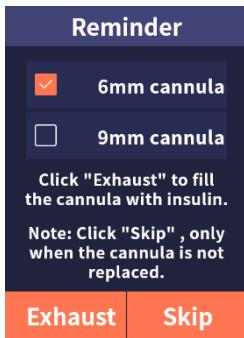

Figure 10.5
(5) Exhaust. Select the length of the soft cannula you are using and then click "Exhaust", the insulin will fill the soft cannula (as shown in Figure 10.5).